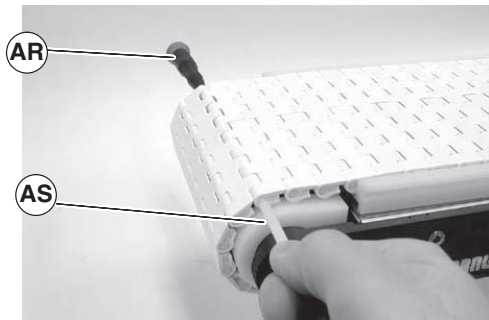

Figure 26
2. Insert screwdriver (Figure 26, item AR) into one side of belt, pushing rod (AS) out. Remove rod and separate belt.